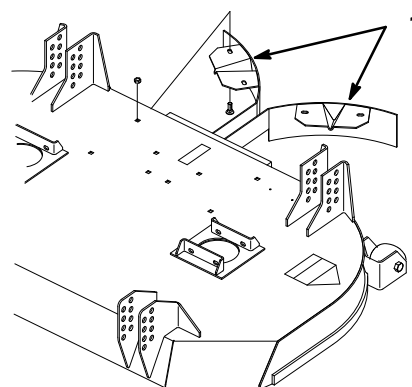

Figure 26
5. Remove the bagger and discharge baffles from the mower and install the Recycler® baffles (Fig. 26).